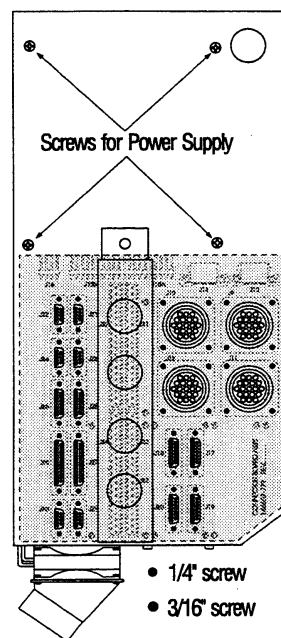

Figure 8-19. Main Control Box (Rear View)
5. Remove the upper circuit board bracket (refer to Figure 8-19).
6. Remove the 1/4" and 3/16" screws around all of the connectors at the back of the control (Figure 8-19).